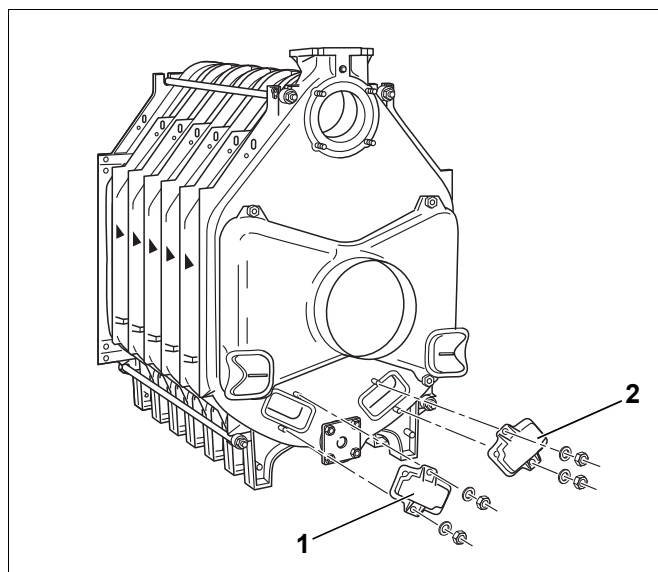

Fig. 30 Install the clean-out covers
- Re-connect the clean-out covers together with washers and nuts to the rear section (Fig. 30, [1] and [2]).